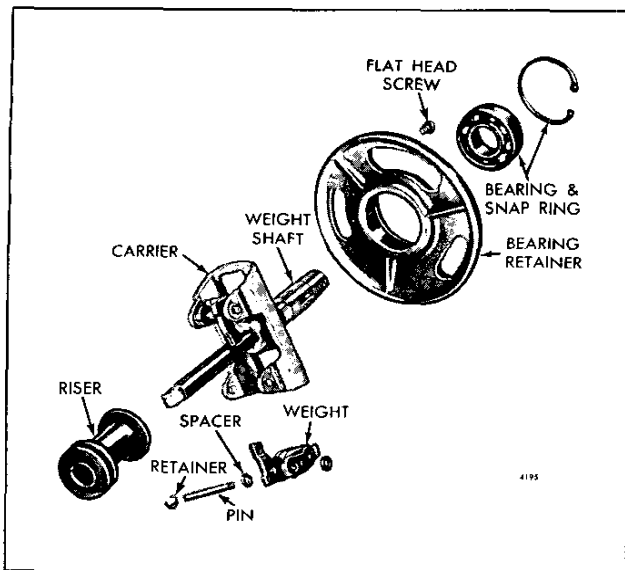

Fig. 5 – Governor Weight Details and Relative Location of Parts
2. Remove the small flat head screw which holds the bearing retainer in place (Fig. 5).
1. Press the bearing retainer from the weight shaft (Fig. 5).